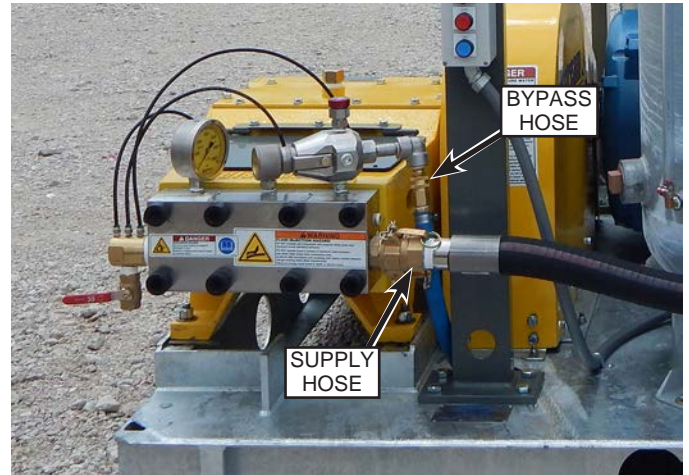

Fig. 153: Connect Switch and Hoses
8. Install the bypass hose (Fig. 153) and supply hose.